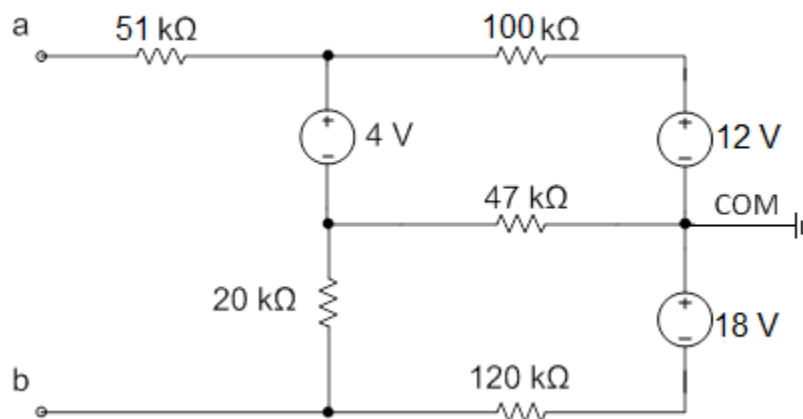

Figure 7-1: Circuit Diagram for *Thévenin & Norton Equivalents*
- Copy the circuit in Figure 7-1 into your lab book.
- Use NI Multisim to check your work. Build the circuit in Figure 7-1 in NI Multisim and use the multimeter to run two separate simulations to measure the current through and voltage across terminals a and b. These values represent the Thevenin voltage and Norton current. You will also use the ohmmeter setting on the voltmeter to measure the open circuit resistance across terminals a and b. This value represents the Thevenin resistance. Note that you will have to disable the voltage source for this measurement. Submit the 3 screenshots of the simulated circuit with the values. Organize a table with your calculated and simulated values for comparison.
You are going to measure the Thévenin and Norton equivalents for the circuit shown in Figure 7-1 and use them to verify the Maximum Power Transfer Theorem.
2.1.1 Measure the Thévenin equivalent resistance directly. Connect the resistors as shown in Figure 7-1. Do not connect the voltage sources for the time being. Instead of connecting the voltage sources, replace them with short-circuits, then place a DMM ohmmeter across the terminals a—b and measure the Thévenin Resistance (open-circuit resistance). Call this $R_{thMeasured}$. Record R_{th} measured and nominal values in a data table and compute the percent error.
- Circuit of Figure 7-1 with all components labeled